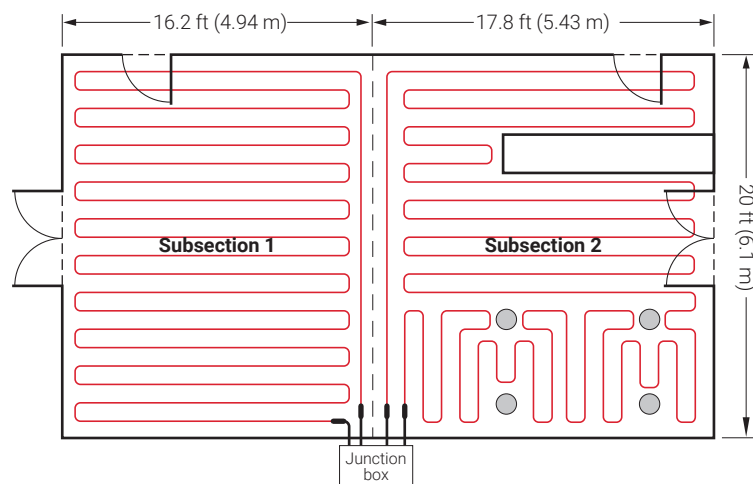

Fig. 17 Typical heating cable layout for comfort floor heating
- Divide large floor areas into equal subsection areas, if possible (Fig. 17).
Note: In Fig. 17, the subsections are equal heated areas.
Subsection area	$647 \text{ ft}^2 / 2 = 324 \text{ ft}^2$ (see Fig. 17) $60.4 \text{ m}^2 / 2 = 30.2 \text{ m}^2$